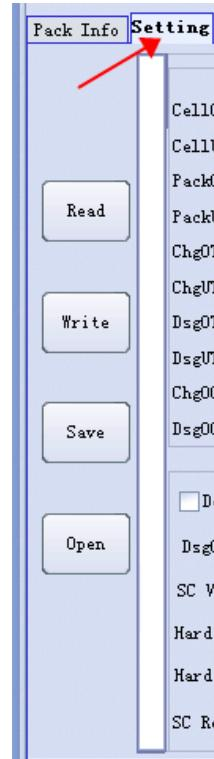

Figure 6
**1. Read parameters:** read the parameters from the protection board , and then displayed in the PC software, In the process of reading, progress bar will show the progress of real-time read such as Figure 6.